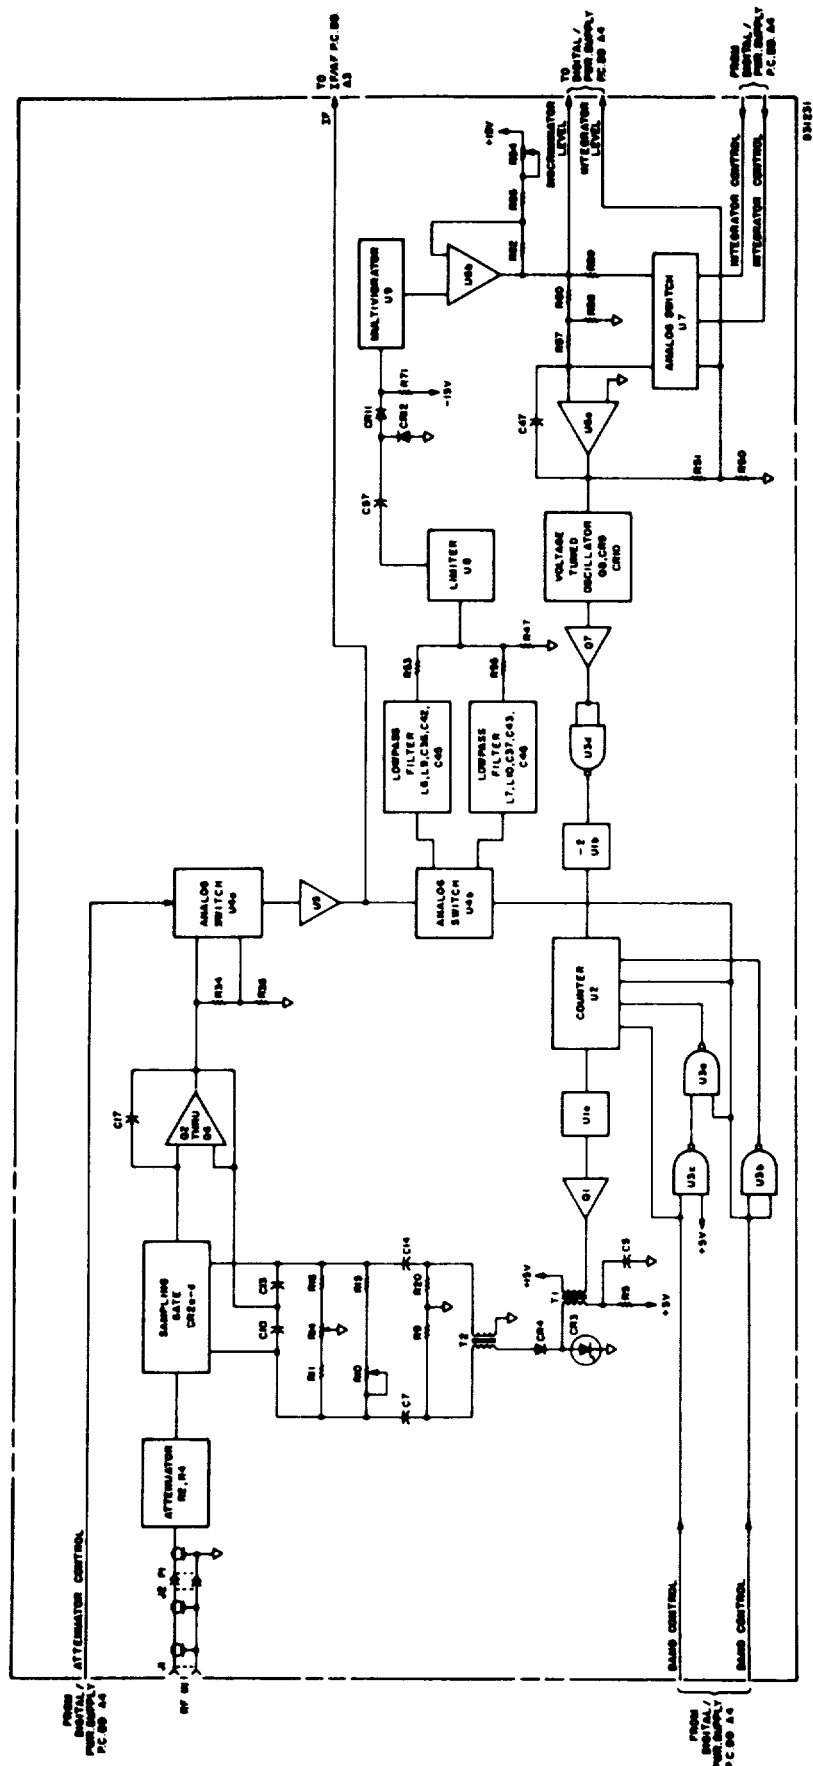

Figure 3-2. R.F. Circuits: Detailed Block Diagram
a. R.F. Circuits. The r.f. circuits convert the r.f. input signal that is to be measured into a 400 kHz if. signal. With the assistance of a microprocessor, a local-oscillator signal is generated and controlled so as to maintain this intermediate frequency. (Refer to Figure 3-2, a detailed block diagram of the r.f. circuits.)
- (1) The input signal applied to the front-panel RF IN connector, J1, is passed through connectors J2 and P1 to a fixed 3 dB pad, which consists of R2-R4. This pad reduces the r.f. level, and improves the impedance match to the incoming signal. The output of the pad is connected to a sampling gate consisting of diodes CR2a-CR2d. The sampling gate and sampler amplifier, consisting of transistors Q2